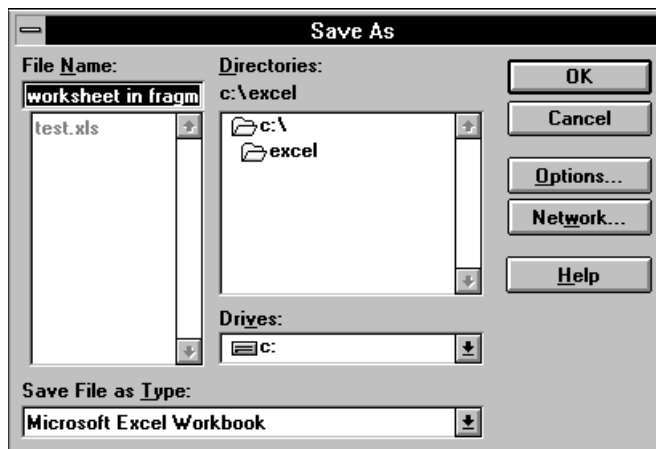

Figure 4-5. Saving the worksheet.
To save your Excel worksheet, open the **File** menu and select **Save Copy As**. The Save As window appears (figure 4-5). In the **File Name** box, type a name for the report (Excel adds the .xls extension), and then click **OK**. A Summary Information window appears. Click **OK**, unless you want to add information about the report.
1. Open the Excel **File** menu and select **Save Copy As**. The Save As window appears (figure 4-5).